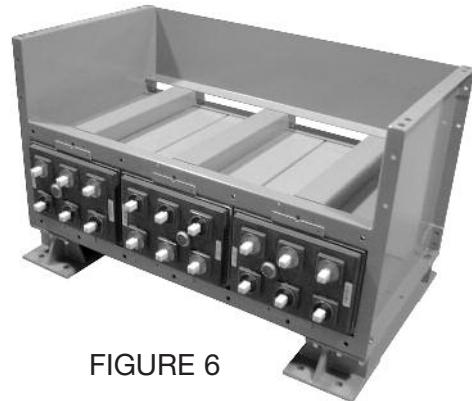

FIGURE 6
8. Place another cell module onto the shelf next to the previously placed cell module. Refer to the Assembly Drawing for the cell polarity configuration. See Figure 6.